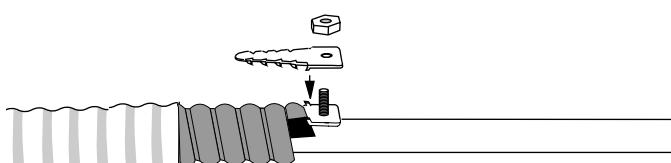

Figure 10
- If necessary, slit the outer sheath to accommodate the top plate. Place the top plate over the base plate and tighten it down with its lock nut (Figure 10). A few light taps on the top plate may help seat the teeth of the clamp.